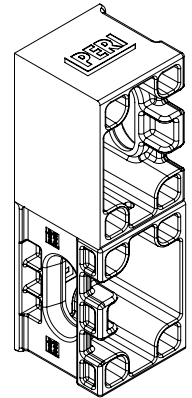

Fig. B5.09c
- wall thickness compensation 10 cm (Fig. B5.09c)